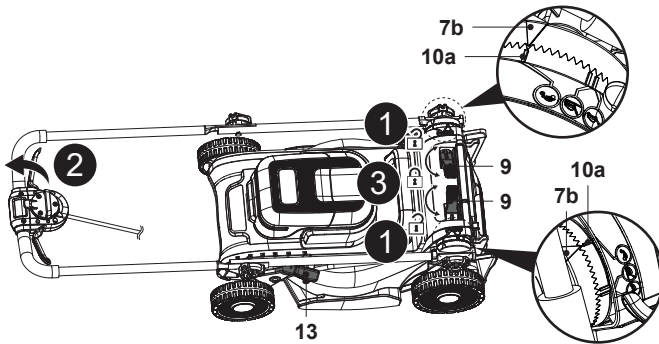

Fig. 21
- Remove the grass catcher (8) / mulching insert (24).
- Set the lever for cutting height adjustment (13) to the lowest position.
- Loosen two clamp levers (9), then completely fold the handle assembly (Fig. 21, steps 1, 2).
- Secure the connections by locking the two clamp levers (9) and ensure that the indicating triangle (7b) is aligned with parking indicator (10a) to avoid scattering (Fig. 21, step 3).
- Store the lawn mower flat or upright (Fig. 21).